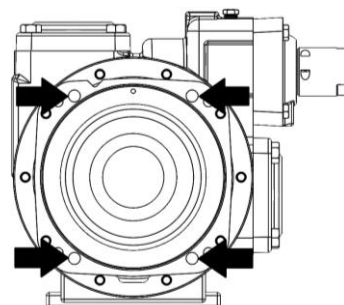

Figure 14 – Magnet Housing Installation Pads
15. Align driving magnet assembly (53) with magnet housing (57). Ensure bearing housing installation screws are contacting machined pads on magnet housing. See Figure 14.